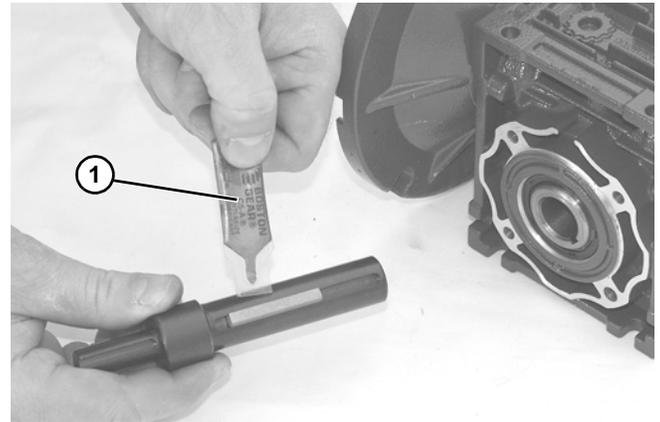

Figure 32
9. Apply anti-seize (**Figure 32, item 1**) to shaft.